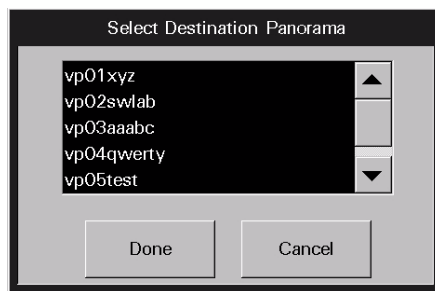

FIGURE 5-15 Select Destination Panorama List Box
5. Select the **Central To Central Without Device** button. The **Select Destination Panorama** list box (shown in FIGURE 5-15) is displayed.
- The **Transfer** button displays the Select Destination Panorama list box (shown in FIGURE 5-15) displays. Go to step 6 on page 5-26 and continue the transfer process. When a Destination Panorama is selected, the patient information is removed from the Failed Transfer List.